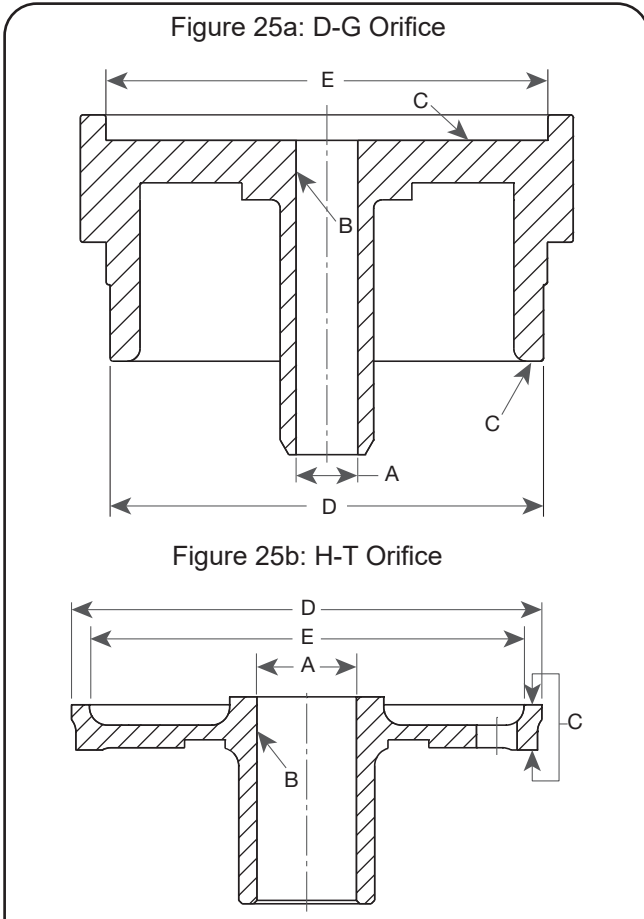

Figure 25: Guide (Metal Seat & Soft Seat)
- b. The "A" dimension (See Figures 25) exceeds A max. in Table 6.